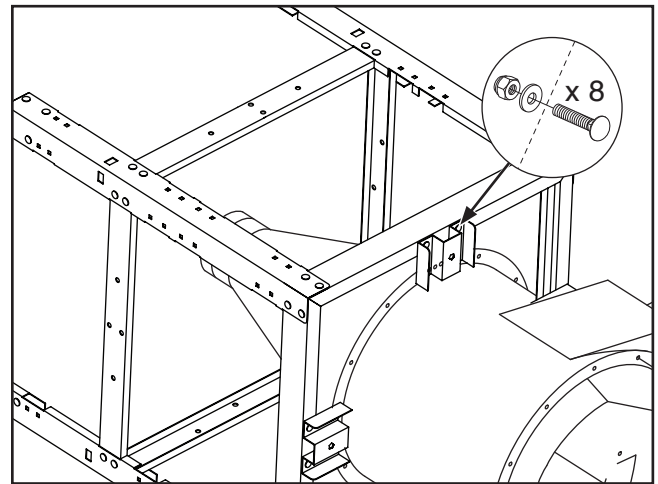

Figure 15. Collector assembly fastened to stand.
- With help of another person, lay stand assembly on its side on cardboard and slide collector assembly into stand assembly, as shown in **Figure 15**.
- Fasten collector assembly to stand with (8) $\frac{5}{16}$ "-18 x $\frac{3}{4}$ " carriage bolts, $\frac{5}{16}$ " flat washers, and $\frac{5}{16}$ "-18 hex nuts, as shown in **Figure 15**.